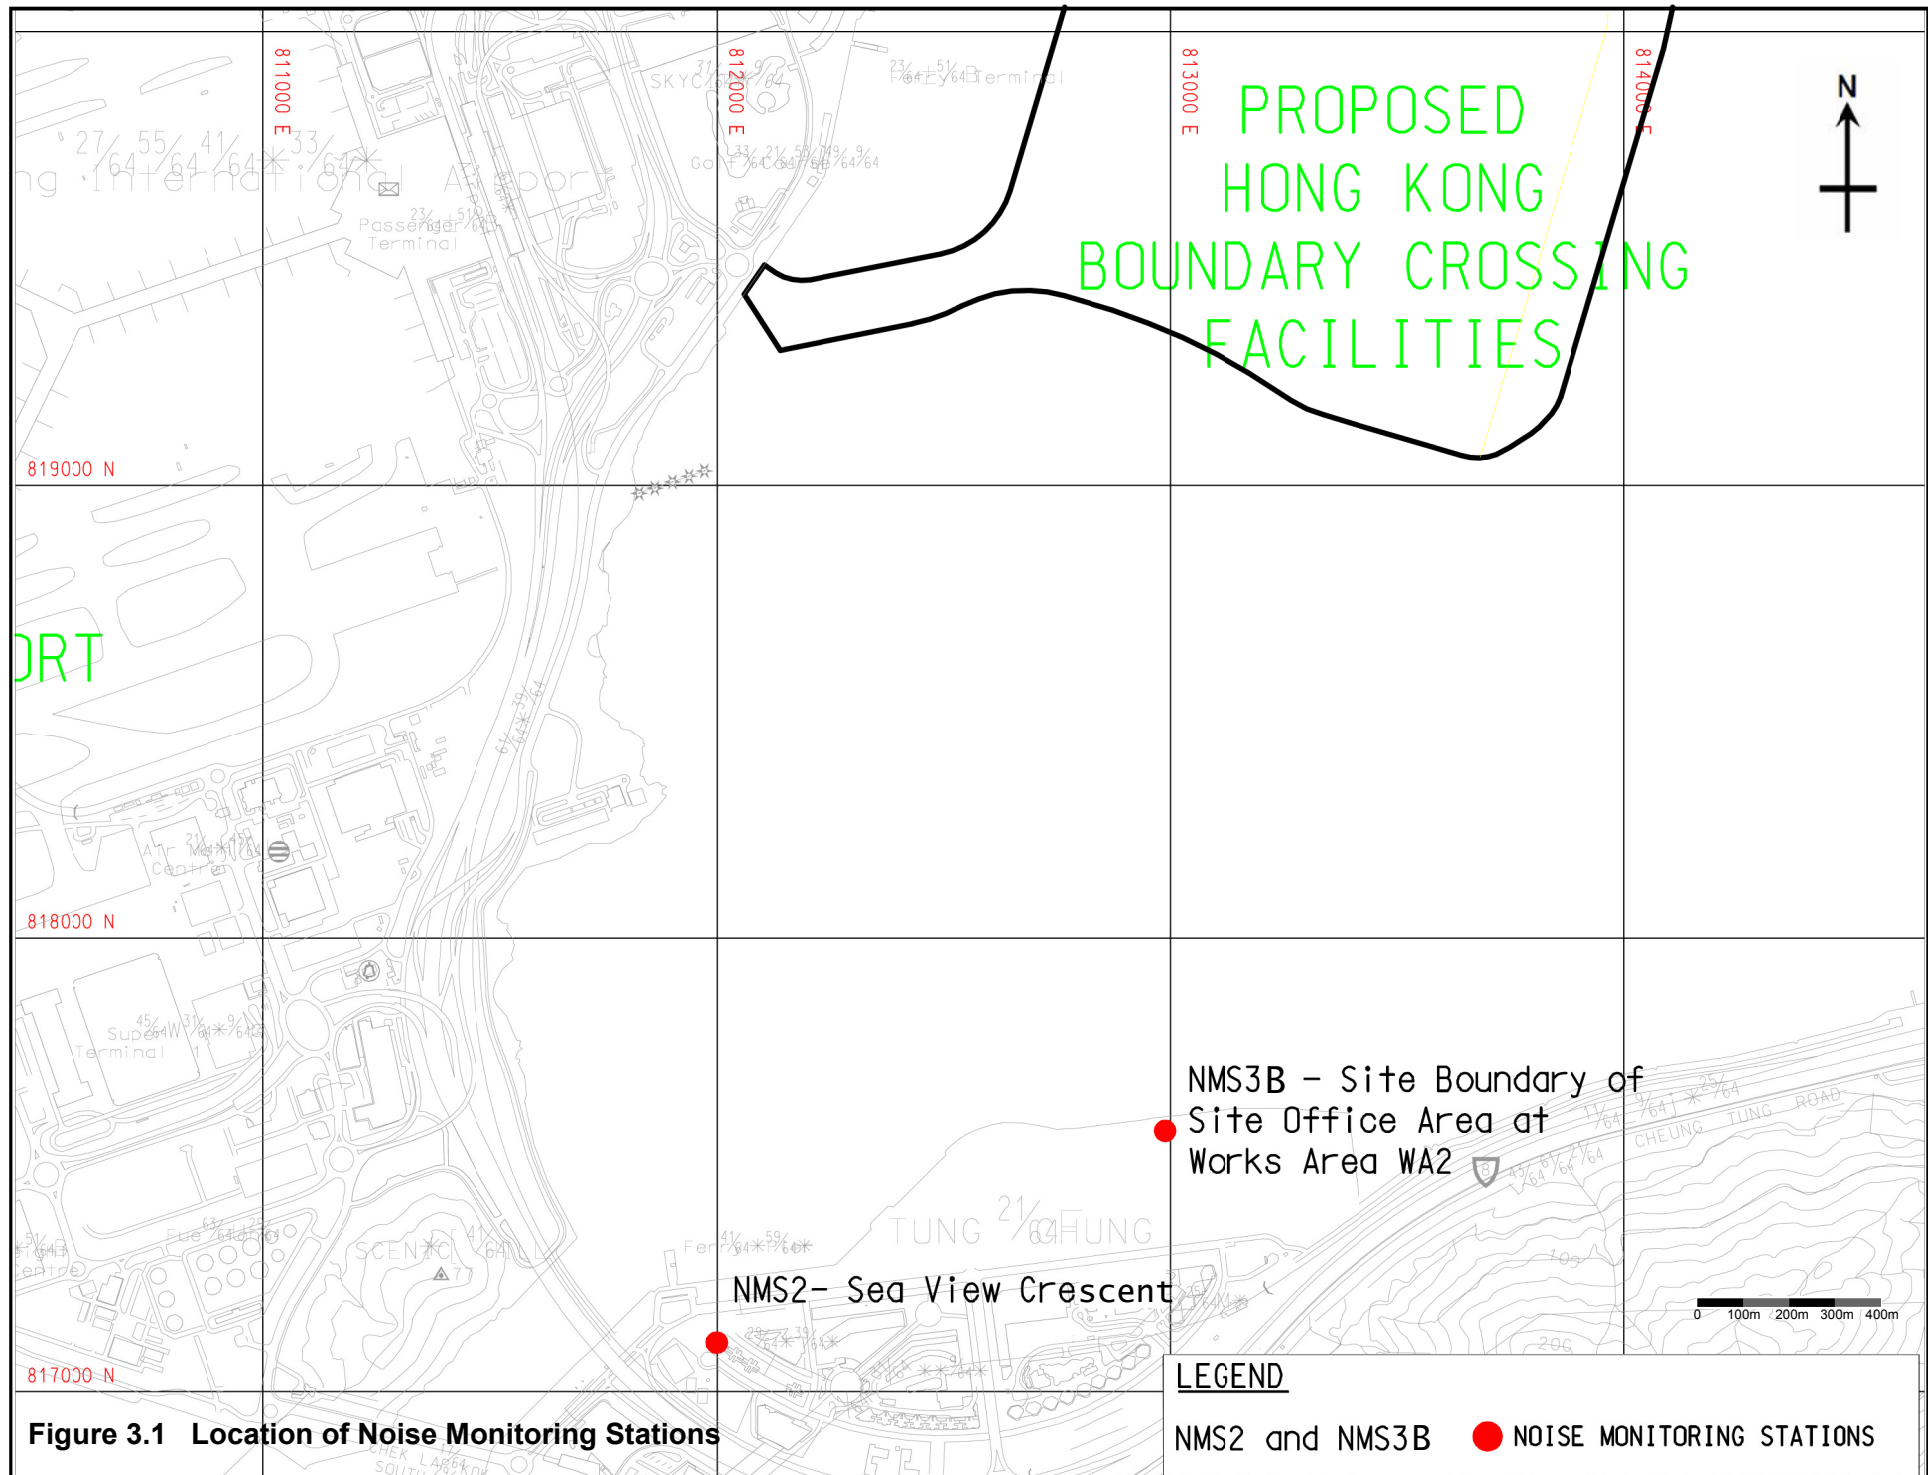

Figure 3.1 Location of Noise Monitoring Stations
3.1.1 The noise monitoring works for the Contract are covered by Contract No. HY/2010/02 Hong Kong-Zhuhai-Macao Bridge HKBCF – Reclamation Works. The ET of the Contract or another ET of the HZMB project is required to conduct impact noise monitoring at NMS2 and NMS3B as part of EM&A programme if these noise monitoring stations are no longer covered under Contract No. HY/2010/02. **Figure 3.1** shows the locations of noise monitoring stations.